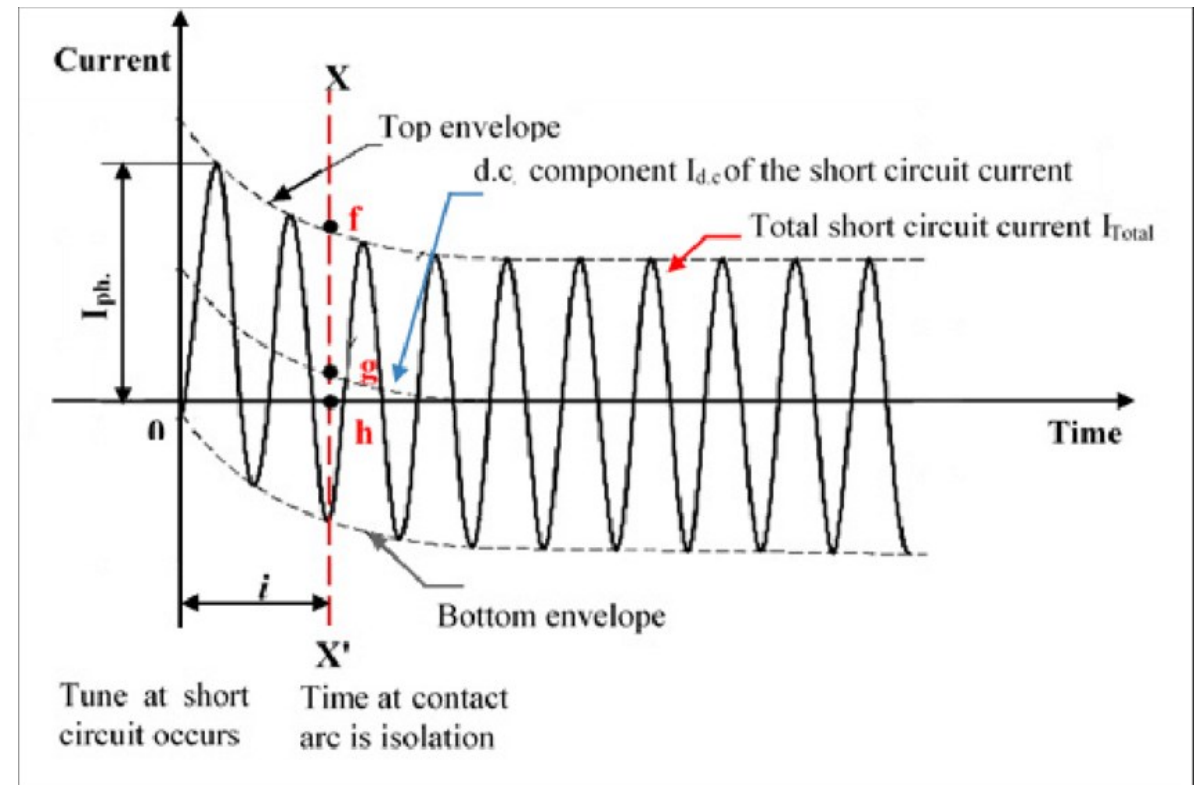

Figure 1.11: CB Fault Current Waveforms
b. Making Capacity: The peak value of current (including DC component, Figure 1.11) during the first cycle of current wave after closure of circuit breaker is known as making capacity. Making capacity = 2.55 x symmetrical breaking capacity.